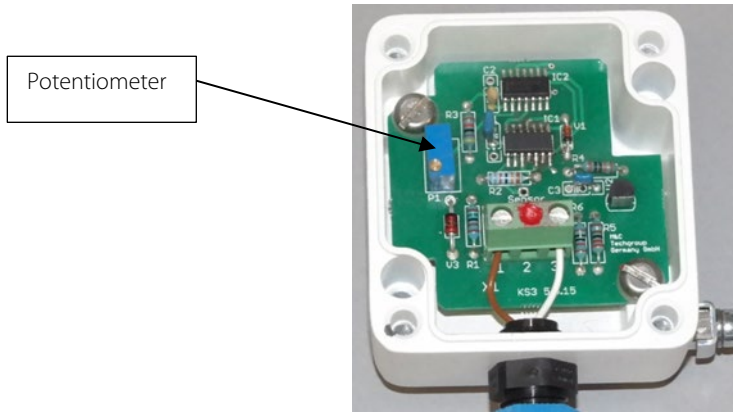

Figure 6 Electronic KFA6-SR2-EX1.W (left) and terminal box KS3 EX
- Turn the potentiometer (figure 6) to the left until the LED is OFF.